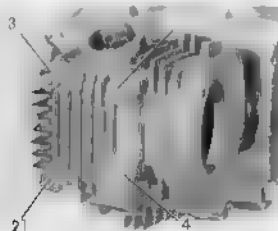

Fig. 3.39 Torquing sequence of cylinder head
4. Install the cylinder head cover and tighten the nuts diagonally and uniformly to 150~200 kg·cm (14.5~18.1 lb·ft). Improper torquing will cause oil leak. (Fig. 3.39)